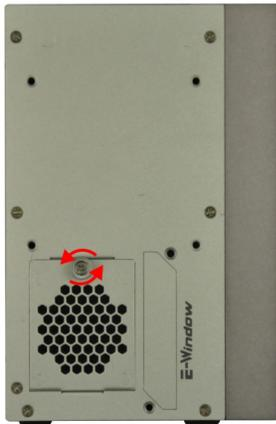

Figure 3-5: Remove the Fan Bracket Cover from the System
Step 1: Loosen the thumbscrew on the rear panel and remove the fan bracket cover from the system (**Figure 3-5**).